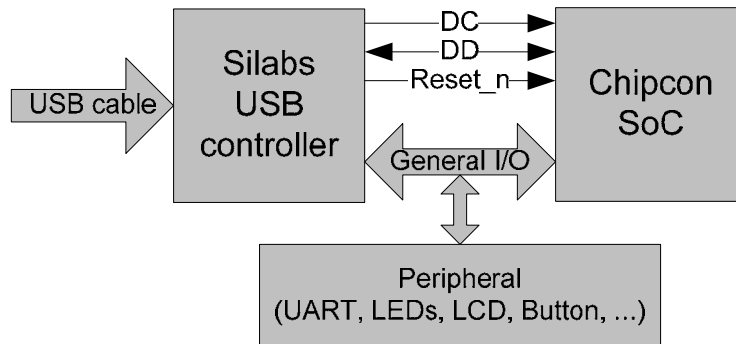

Figure 1: Main components
Figure 1 shows the main components on the SmartRF[®]04EB. A USB cable from a PC is connected directly to the USB controller. When a SoC evaluation module is plugged into the SmartRF[®]04EB, the only purpose of the USB controller is to “translate” USB signals to the SoC 2-wire debug interface. This interface includes Debug Clock (DC) and Debug Data (DD). The USB controller also controls the Reset_n line connected to the SoC.